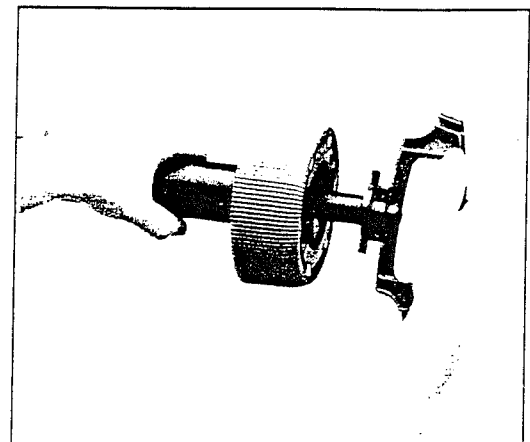

Figure 32
- 6) The pump piston is removed from the cylinder by pulling the two apart. The large gasket at the top of the cylinder will hold the cylinder in the red cap. Turning the cylinder counter-clockwise while holding the red cap and pulling may help separate the two. (See Figure 32).